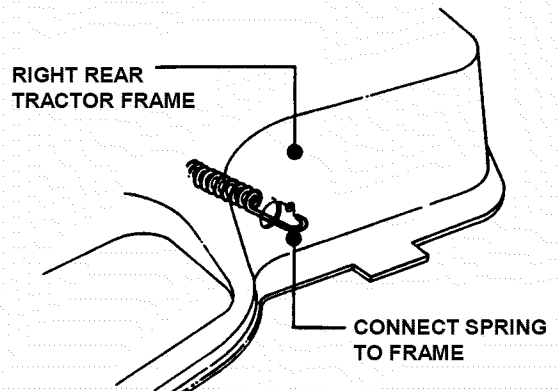

FIGURE 4.36
3. Route belt through stationary and tension idlers. See Figure 4.36.
5. Attach tension idler spring to tractor frame. See Figure 4.36.